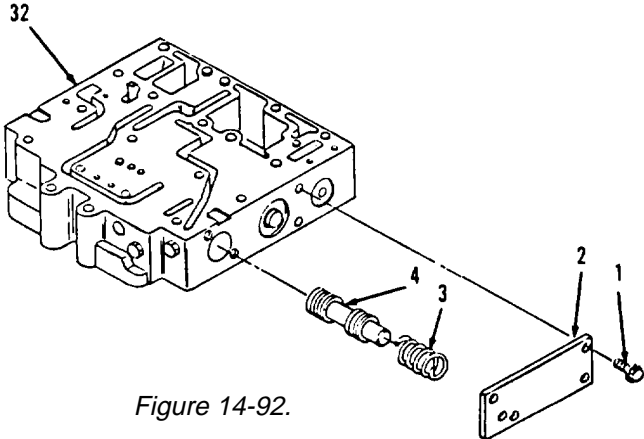
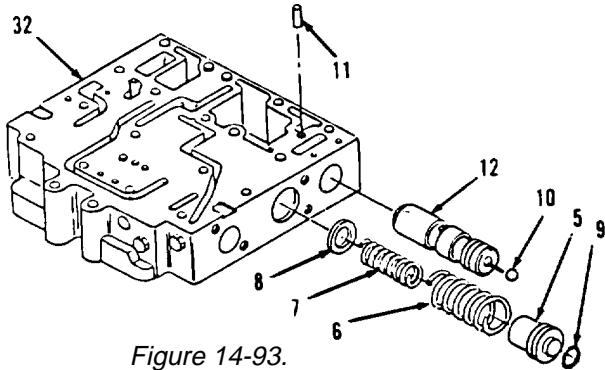

Figure 14-92.
Figure 14-93.
2. Remove four bolts (1) and cover (2) from body (33, Figure 14-92).
3. Remove spring (3) and spool (4).
4. Remove plug (5), springs (6 and 7) and washer (8, Figure 14-93).
5. Remove and discard preformed packing (9) from plug (5).
6. Remove ball (10) from body (33).
7. Remove dowel (11) and stop (12).